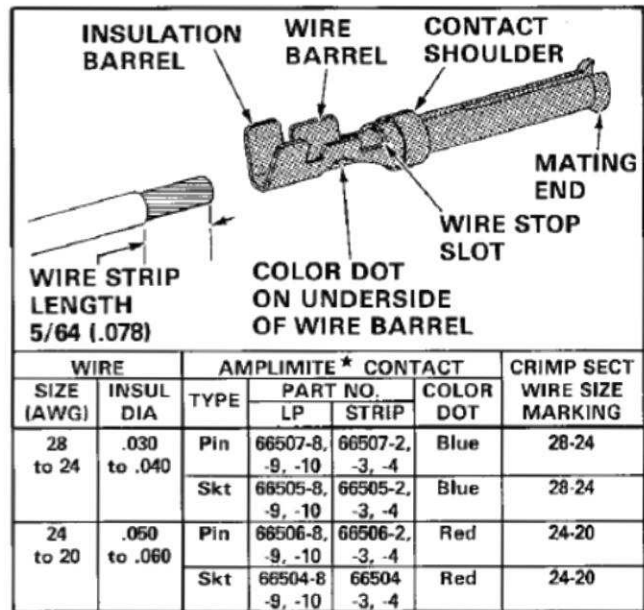

Fig. I-2
AMP Hand Crimping Tool 90312-1 is designed for crimping the AMPLIMITE[®] precision formed size 20 loose-piece (LP) pin and socket contacts listed in Figure I-2. Read these instructions thoroughly before crimping any contacts. The tool is recommended for field repair use ONLY.
This tool features two crimper jaws, two anvil jaws, two crimp sections, a movable locator, a wire stop, a ratchet to ensure full contact crimping, and spring-actuated handles with cushioned hand grips. A color dot appears on the underside of the loose-piece contact wire barrel. The color dot — either red or blue — can be used to match the wire size of the contact with the correct crimping section (either 28-24 or 24-20). Refer to the chart in Figure I-2.
Refer to the chart in Figure I-2, and select wire of the specified size and insulation diameter. Strip the wire to the length indicated — do NOT cut or nick the wire strands.